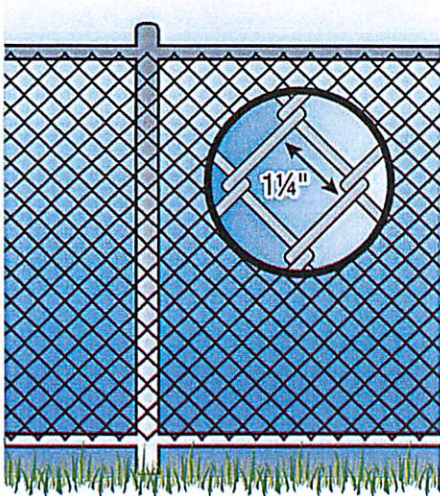

Figure 5
8. **Maximum mesh size for chain link fences** should not exceed  $1\frac{1}{4}$  inch square unless the fence is provided with slats fastened at the top or the bottom which reduce the openings to no more than  $1\frac{3}{4}$  inches (figures 5 and 6).